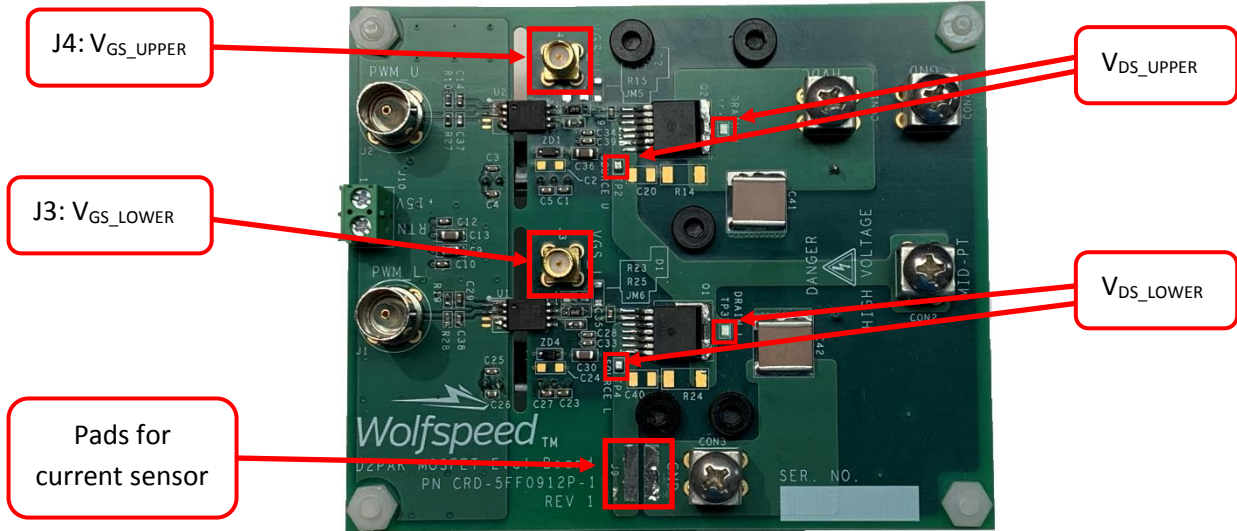
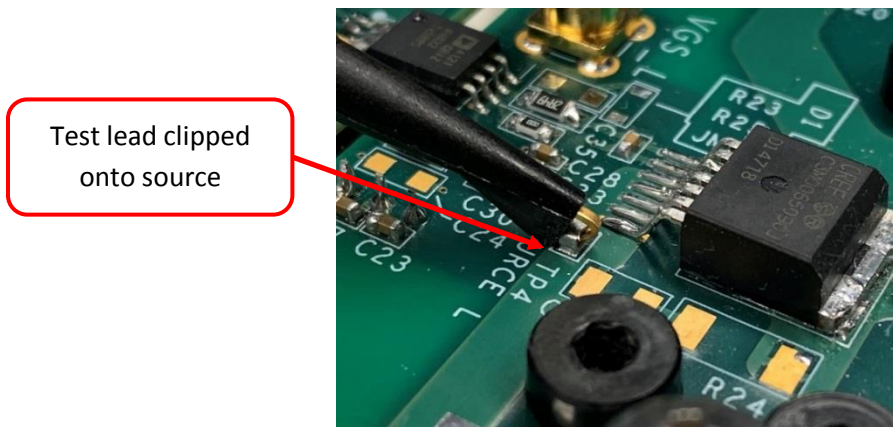

Figure 11. Cree’s KIT-CRD-8FF65P/CRD-8FF90P Evaluation Kit test point locations
Figure 13. Test lead clipped on the source (power)
Cree’s KIT-CRD-8FF65P/CRD-8FF90P Evaluation Kit comes with many test points (Fig. 11) so that users may capture critical waveforms such as drain to source voltage (VDS), gate to source voltage (VGS), and drain current (ID). It is critical to take these measurements as close as possible to the device pins. On the top side of the evaluation kit’s PCB board, there are test loops placed right next to the drain tab and source (power) pins for each MOSFET. The test loop makes it convenient for the users to attach the clip-on probes to the PCB board (Fig. 13).